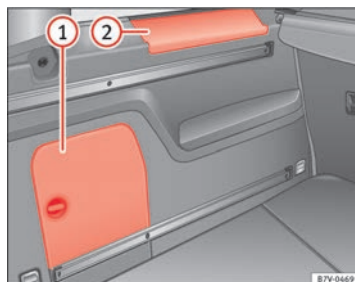

Fig. 114 In the luggage compartment: Side storage compartment.
There are other compartments ⇒ fig. 114 ① and ② in the side of the luggage compartment. To open the compartment ①, turn the catch clockwise. To open the compartment ②, lift the cover. The factory-fitted **CD changer**